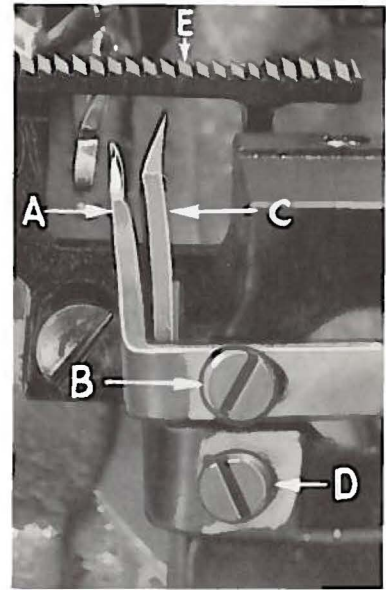

Fig. 5
Now assemble the main feed dog (E, Fig. 5).
Set rear needle guard (A, Fig. 5) as high as possible, without interfering with either lower looper or movement of lower knife holder, but still in position to deflect needle forward .002-.004 inch. Screw (B) is used to set rear needle guard. Make sure there is no interference between rear needle guard and lower looper.
Assemble front needle guard (C, Fig. 5). When lower looper is springing needle off back guard, set front needle guard as close as possible to needle without touching. Screw (D) is used to adjust and set front needle guard. After this setting make sure there is no interference between needle guards and main feed dog.